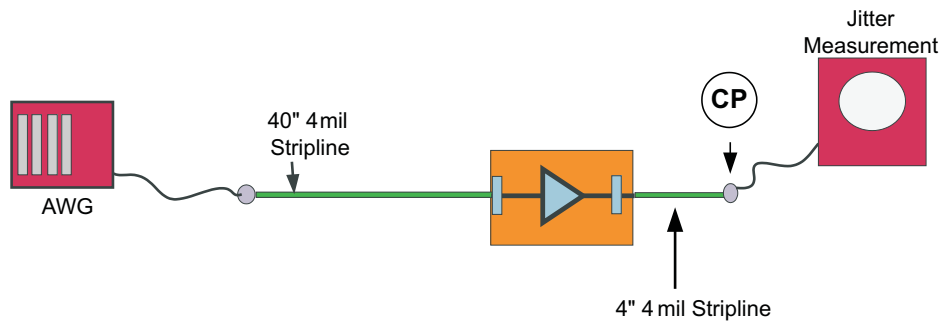

Figure 7. Jitter Measurement Test Condition
(1) $T_J = (14.1 \times RJ_{SD} + DJ)$ where RJ_{SD} is one standard deviation value of RJ Gaussian distribution. Jitter measurement is at the SATA connector and includes jitter generated at the package connection on the printed circuit board, and at the board interconnect as shown in Figure 7.